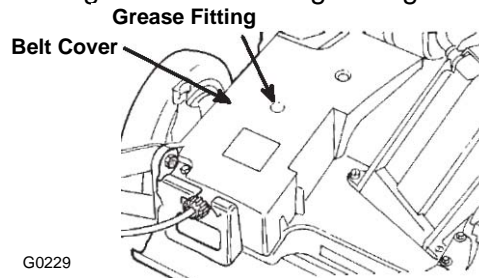

Figure 30
2. Install a grease gun onto the fitting through the belt cover opening (Fig. 30)